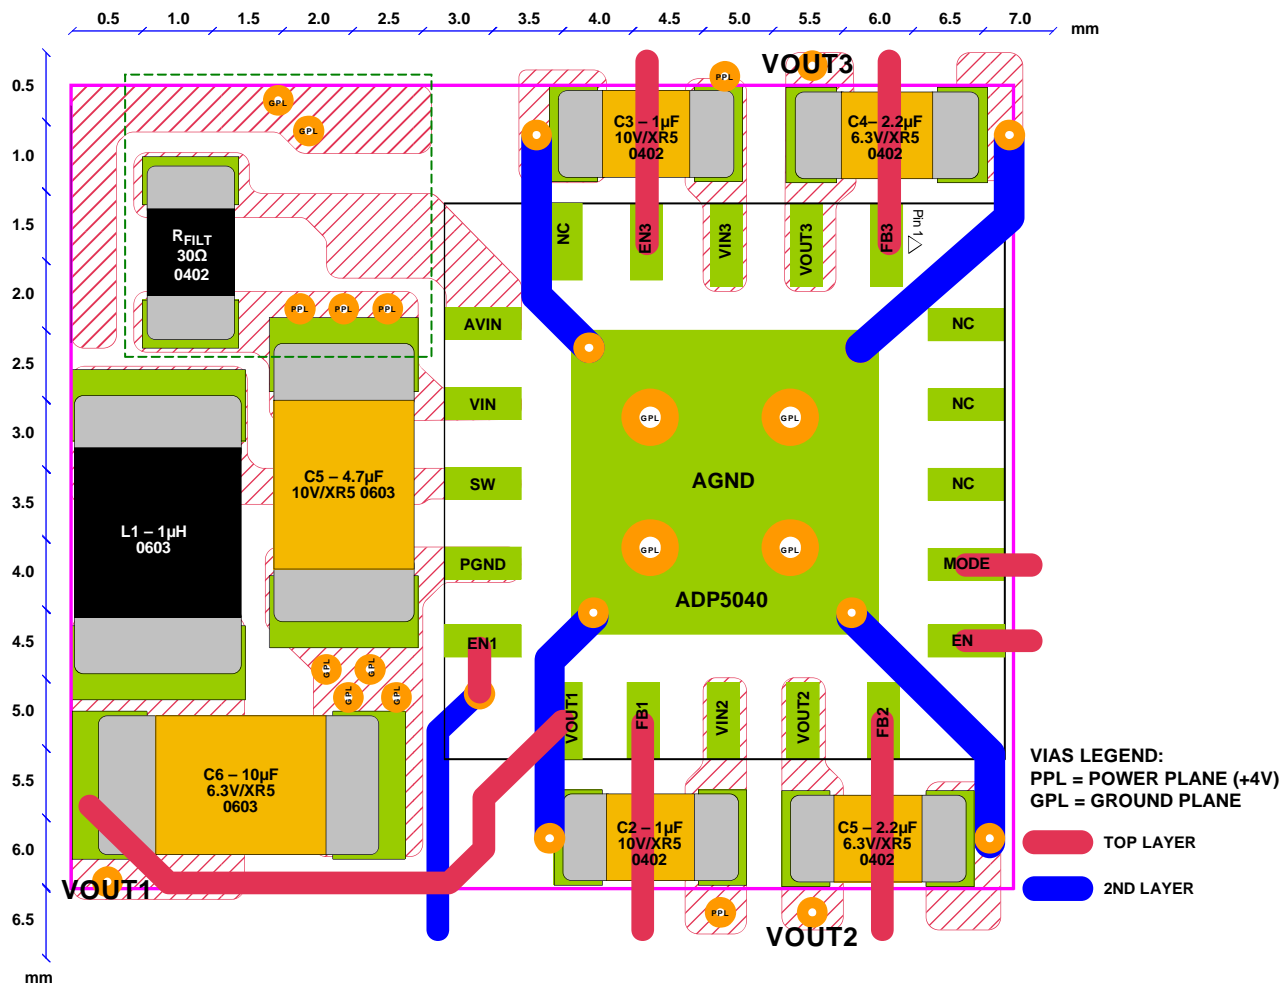

Figure 109. Evaluation Board Layout
The typical  $\theta_{JA}$  value for the 20-lead, 4 mm × 4 mm LFCSP is 38°C/W (see Table 6). A very important factor to consider is that  $\theta_{JA}$  is based on a 4-layer, 4 inch × 3 inch, 2.5 oz copper, as per JEDEC standard, and real applications may use different sizes and layers. To remove heat from the device, it is important to maximize the use of copper. Copper exposed to air dissipates heat better than copper used in the inner layers. The exposed pad (EP) should be connected to the ground plane with several vias as shown in Figure 109.
See Figure 109 for an example layout.